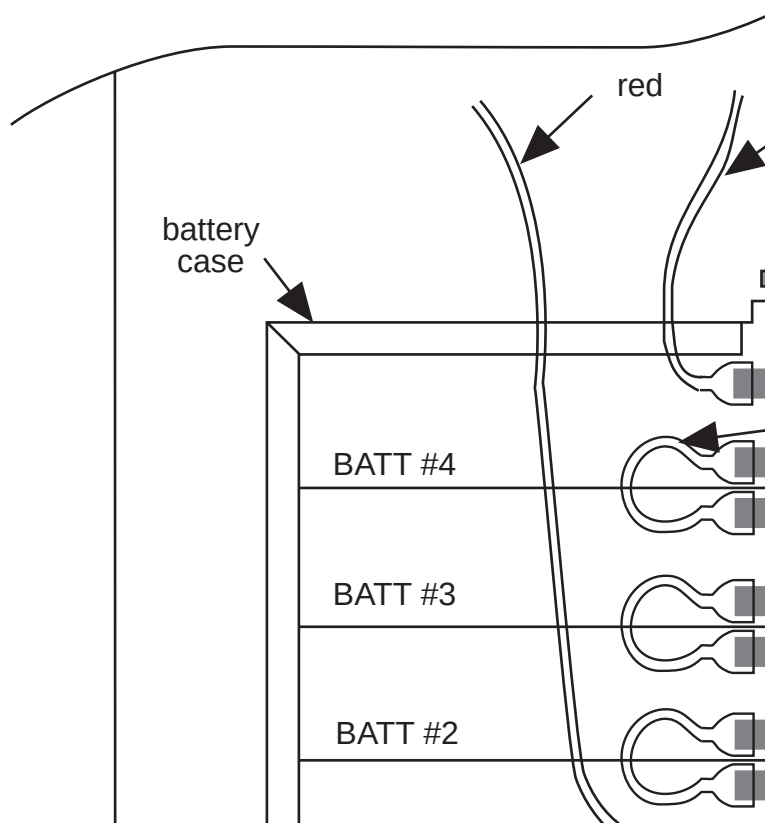

Figure 7-16. Battery Module
- Remove the screws which attach the battery module to the power supply chassis. These screws are marked “A” in Figure 7-16.
- Disconnect the black lead that connects the power supply to the top lug of the top battery (Figure 7-16).
4. Disconnect the red lead that connects the power supply to the bottom lug of the bottom battery (Figure 7-16).
7. Disconnect the three red jumpers that connect the batteries together (Figure 7-16).
8. Remove the two screws which hold the battery module sheet metal pieces together. These screws are marked "B" in Figure 7-16.
1. Orient the new battery module as shown in Figure 7-16.
3. Connect the batteries with the three red jumpers (Figure 7-16).
6. Connect the black lead from the power supply to the top lug of the top battery (Figure 7-16).
7. Connect the red lead from the power supply to the bottom lug of the bottom battery (Figure 7-16).